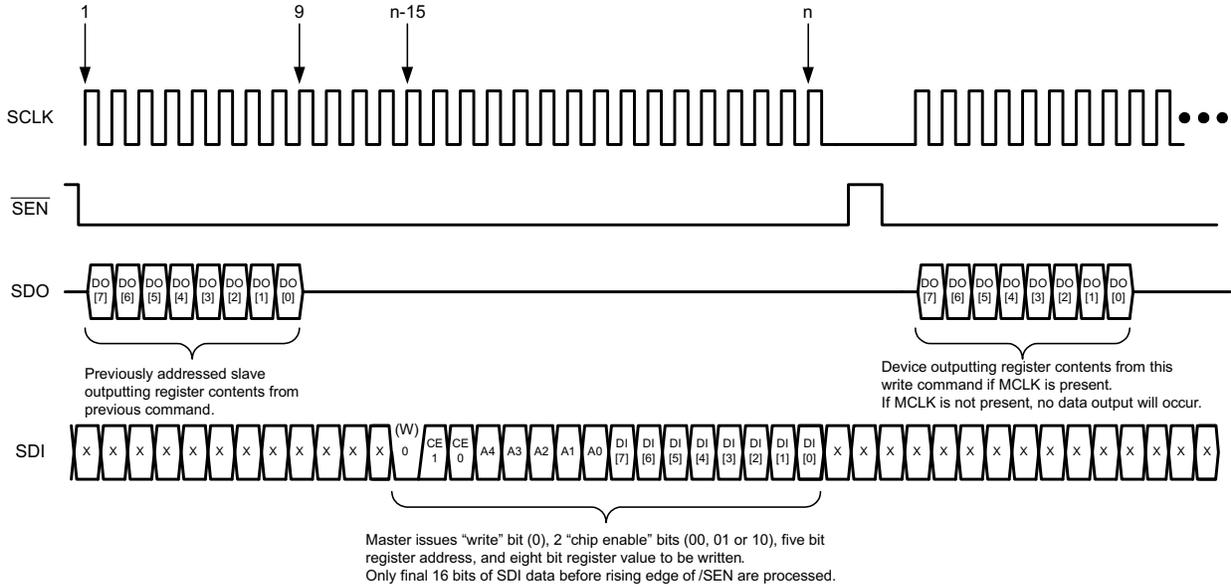
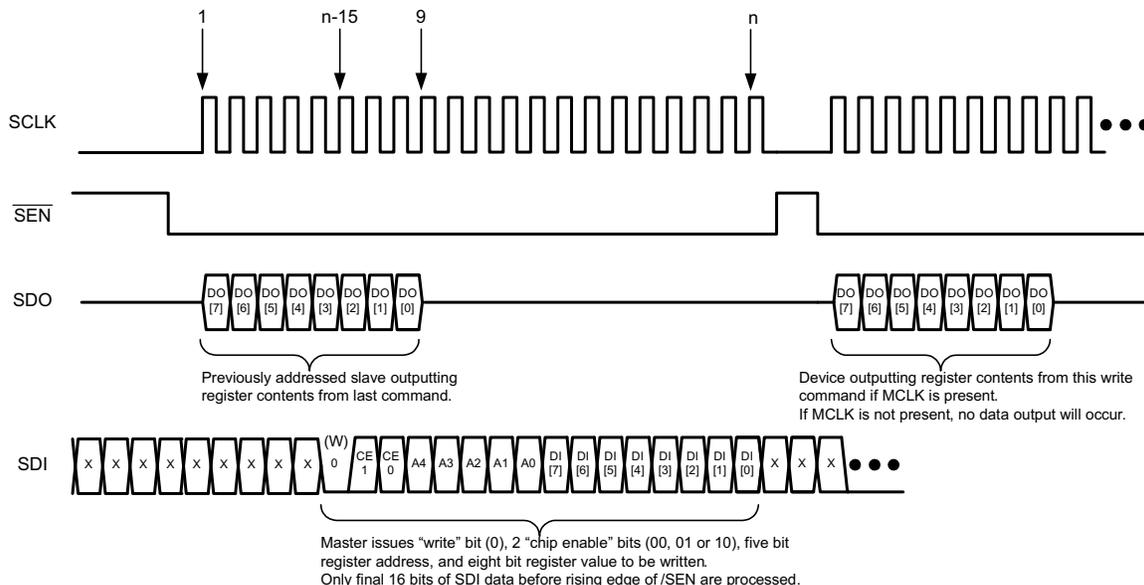

Figure 64. Serial Write - 4 Wire Connection - 25+ Clock Mode
Figure 66. Serial Write - 4 Wire Connection - 16+ Clock Mode
- **Clockless (MCLK stopped) Mode (always enabled if MCLK stopped)** - When the input MCLK is stopped, Data Read operation is exactly the same as MCLK present mode. The Data Write operation no longer provides a free readback of the previously written data. See Figure 64 and Figure 66.